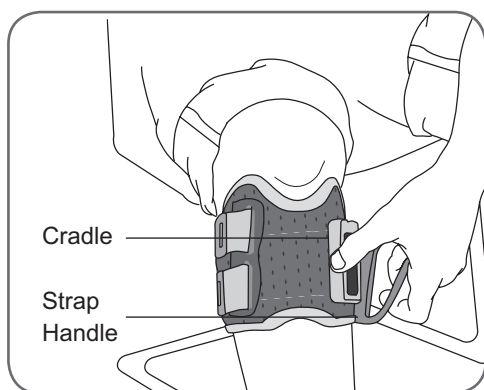

Figure 8-18: Fastening the L300 FS Cuff strap.
3. Have the patient grasp the handle of the L300 FS Cuff strap. With the thumb on the L300 RF Stim Unit cradle, have the patient fasten the L300 FS Cuff strap handle around the cradle. See Figure 8-18.